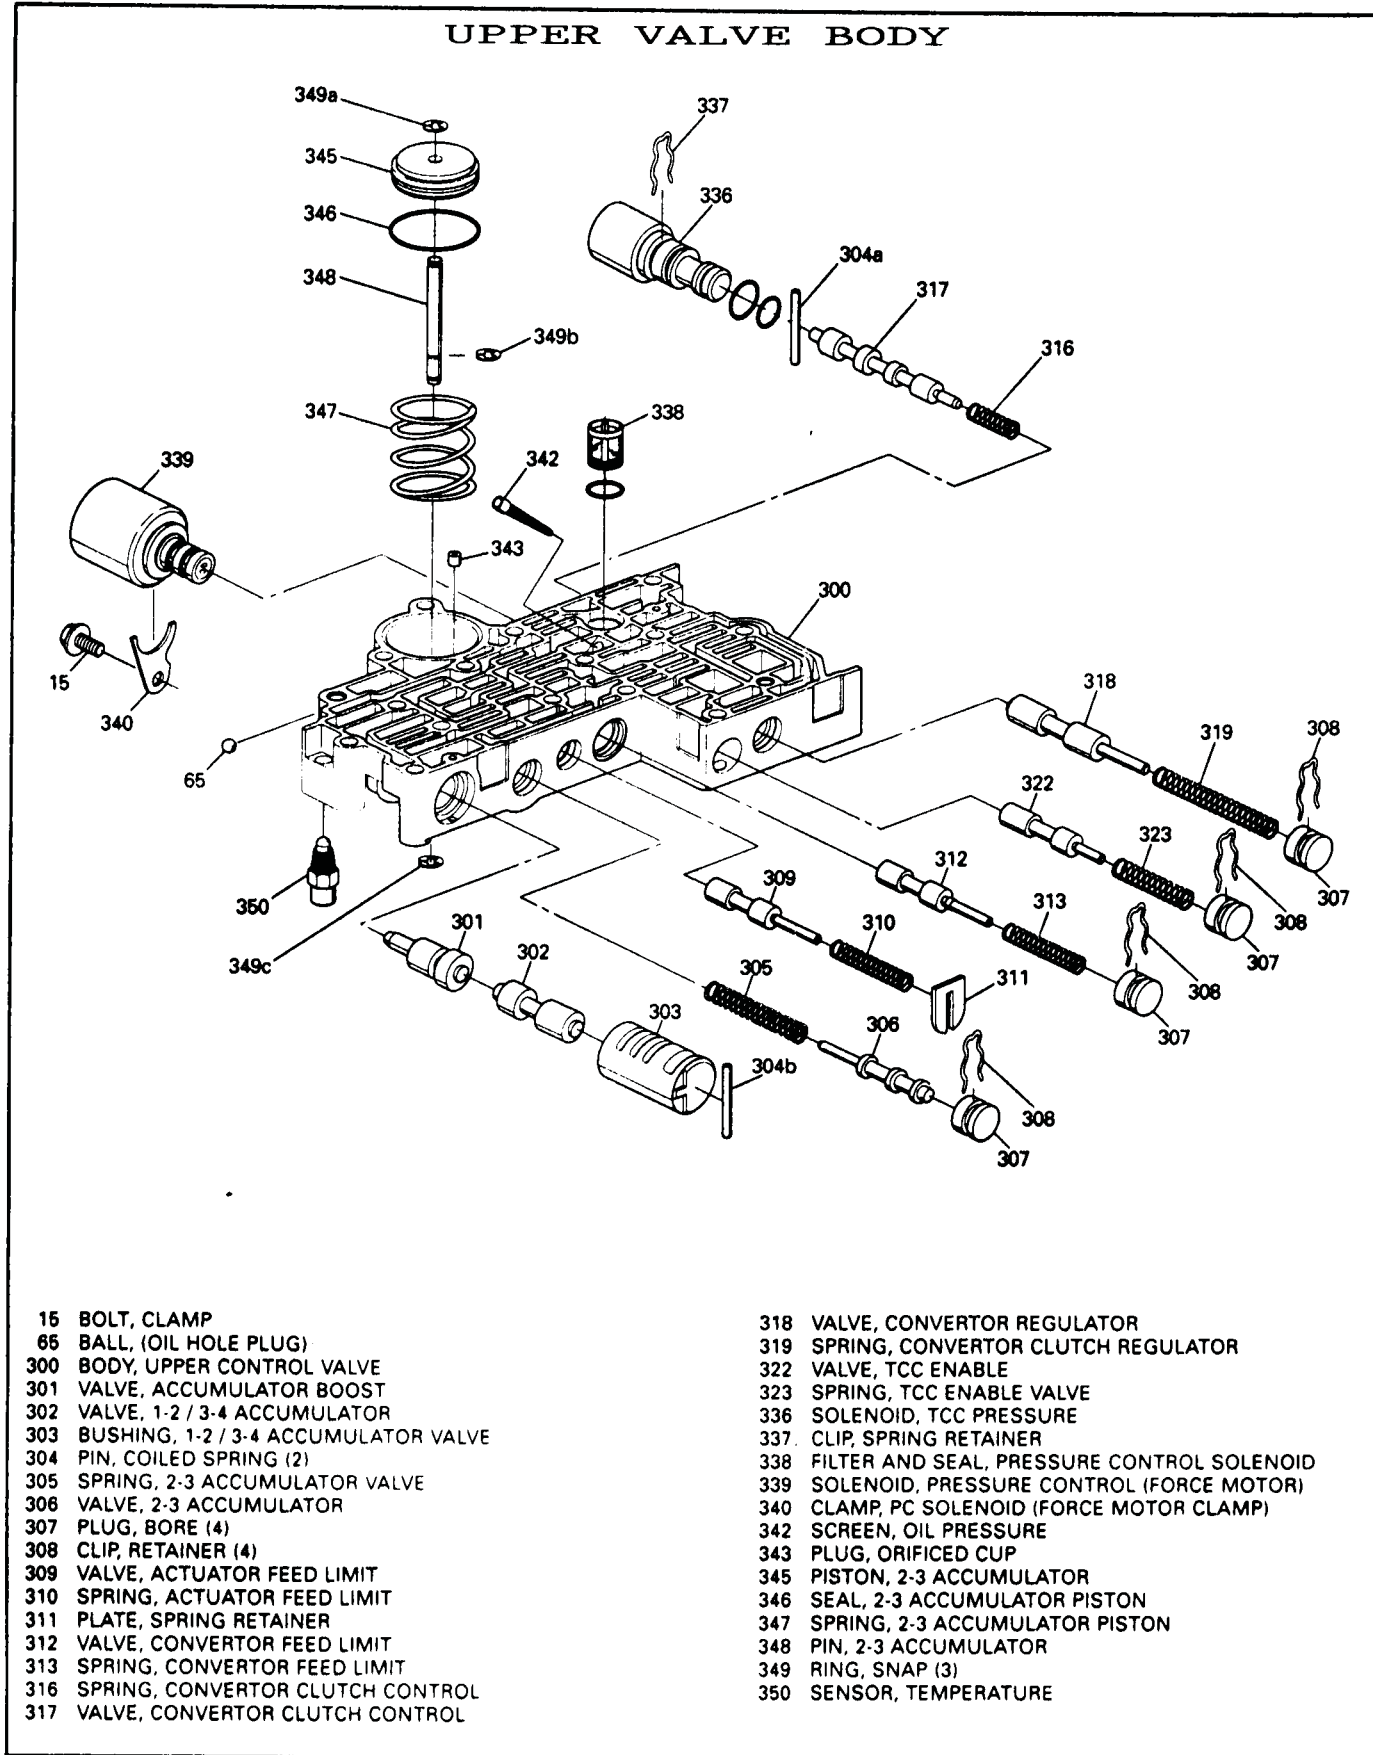

Figure 82
10. Use the illustrations in Figure 82, to reassemble the Upper Valve Body.
11. Ensure that all valves, springs, and bushings are in their proper order. (Refer to Figure 82).
14. NOTE: The Filter and Seal (338) for the pressure control solenoid, and screen (342) shown in Figure 82 should also be replaced during rebuild.